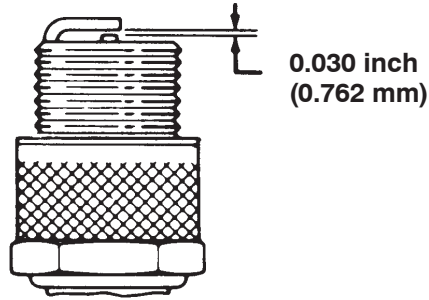

Figure 41
4. Set the air gap between the center and side of the electrodes at 0.030 inch (0.762 mm) (Fig. 41). Install the correctly gapped spark plug and tighten the plug to 14 ft.-lb. (20 N·m).